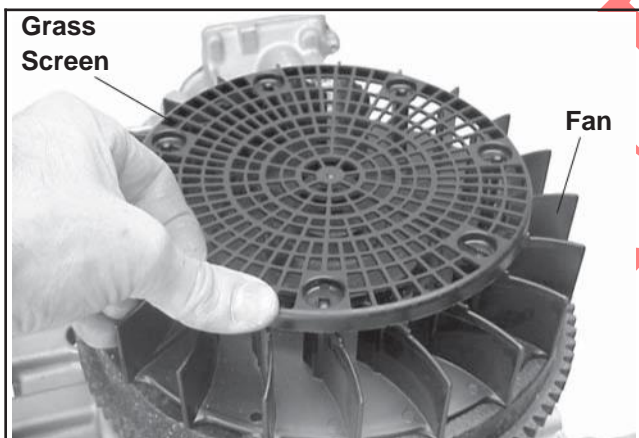

Figure 11-33. Installing Grass Screen (Electric Start Models).
5. Install the grass screen onto the fan assembly (electric start models). See Figure 11-33. If the engine originally had extra retainers on three of the snap knobs, you were instructed to mark those knobs during the disassembly procedure. Install new retainers (Part No. 24 018 03-S) on the opposite three knobs from where the original retainers were located.